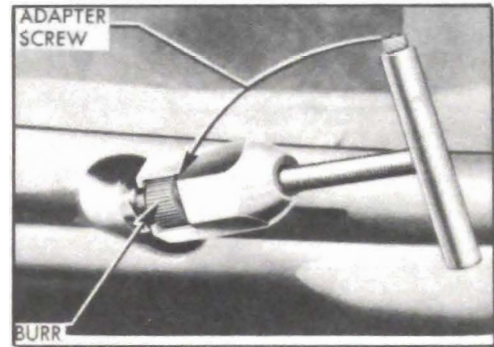

Figure 13-14—Removing Driving Burr from Transmission Shaft
2. Remove adapter screw from handle of Burr Remover and Replacer J 2682 and thread it into the end of transmission shaft, then install the tool so that clutch end of barrel grips the under side of driving burr. Hold the barrel of tool stationary with an open end wrench, turn handle of tool *counterclockwise* until burr is removed. See figure 13-14.